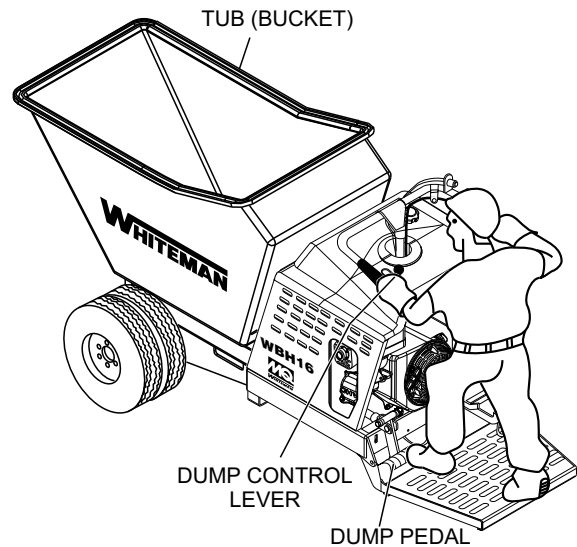

Figure 27. Tub Horizontal Position
2. To return the tub to the horizontal position (Figure 27), simply release the dump control lever or remove your foot from the dump pedal.